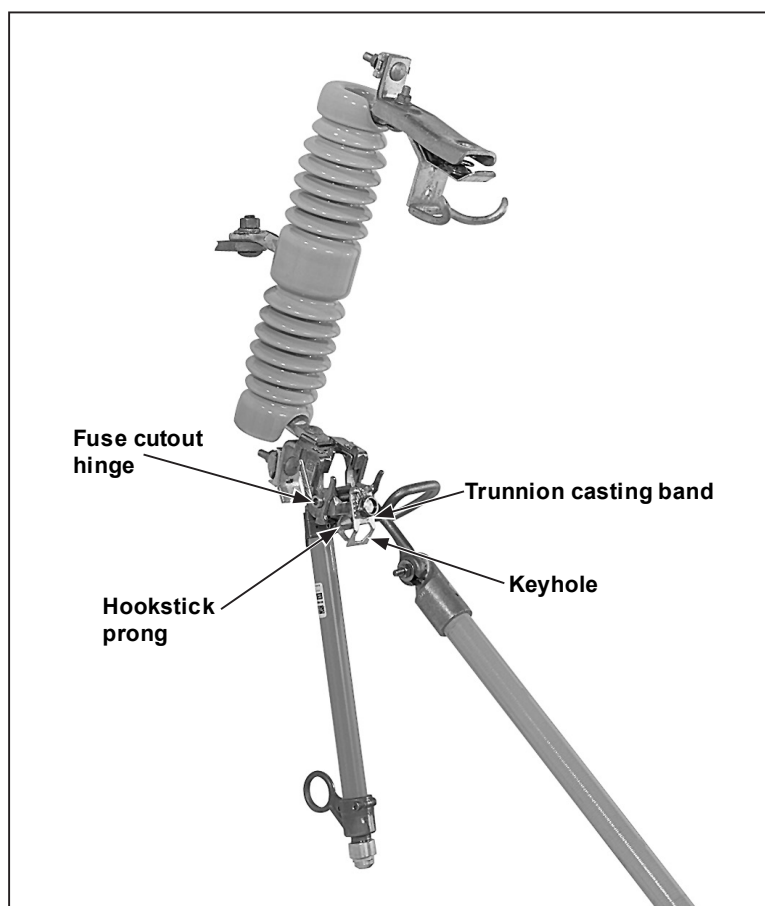

Figure 3. Installing the fuse tube.
Step 2 Guide the fuse tube into the fuse cutout hinge as shown in Figure 3 and disengage the hookstick.
Following an opening operation using Loadbuster, the fuse tube can be lifted out of the fuse cutout hinge using the prong of a hookstick. See Figure 3 on page 9.